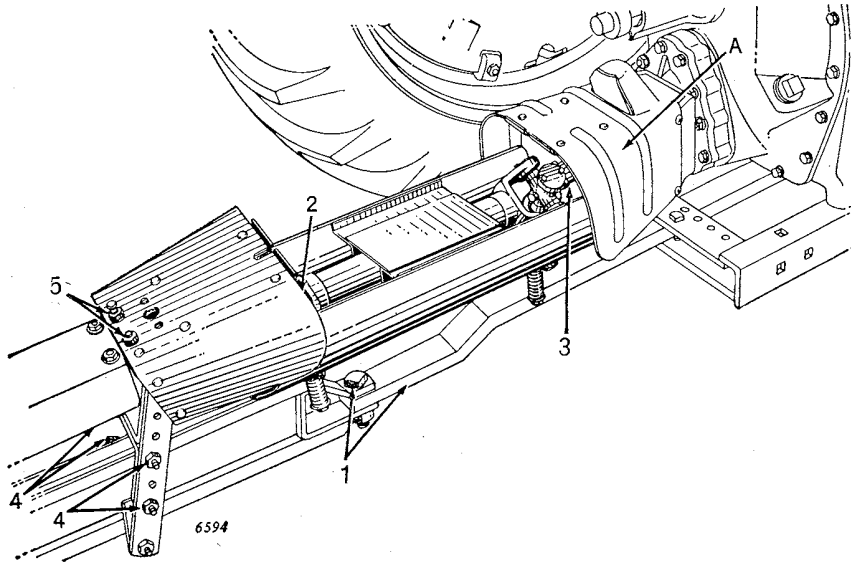

Figure 12
1. (Figure 12) Adjust tractor drawbar so it conforms to settings established by standardization program. (See Pages 16 and 17.) If such dimensions cannot be obtained on tractor, it will be necessary to order conversion parts from **tractor manufacturer**. Be sure tractor drawbar is rigidly secured in a position directly below power line. Connect picker to tractor.
2. (Figure 12) Remove tape around key in front end of telescoping pipe for power drive. Remove cap screw, lugged lock washer, and notched retaining washer from front end of telescoping pipe. Slide rear universal joint onto front end of telescoping pipe and replace notched retaining washer, lugged lock washer, and cap screw. Be sure to fit bent lug on lock washer into notch in retaining washer and to bend remaining lugs on lock washer over head of cap screw.
3. (Figure 12) Slide front splined universal joint onto take-off shaft and secure in place with clamp bolt.
4. (Figure 12) Adjust the height of power shaft front bearing as shown.
5. (Figure 12) Bolt power shaft shield to **rear** set of holes in power shaft front bearing housing.